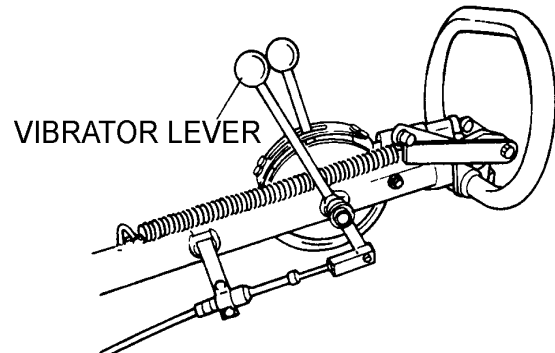

Figure 22. Vibrator Lever
1. Shift the two vibrator levers (Figures 22 and 23) to the vibrate position to start vibrations.